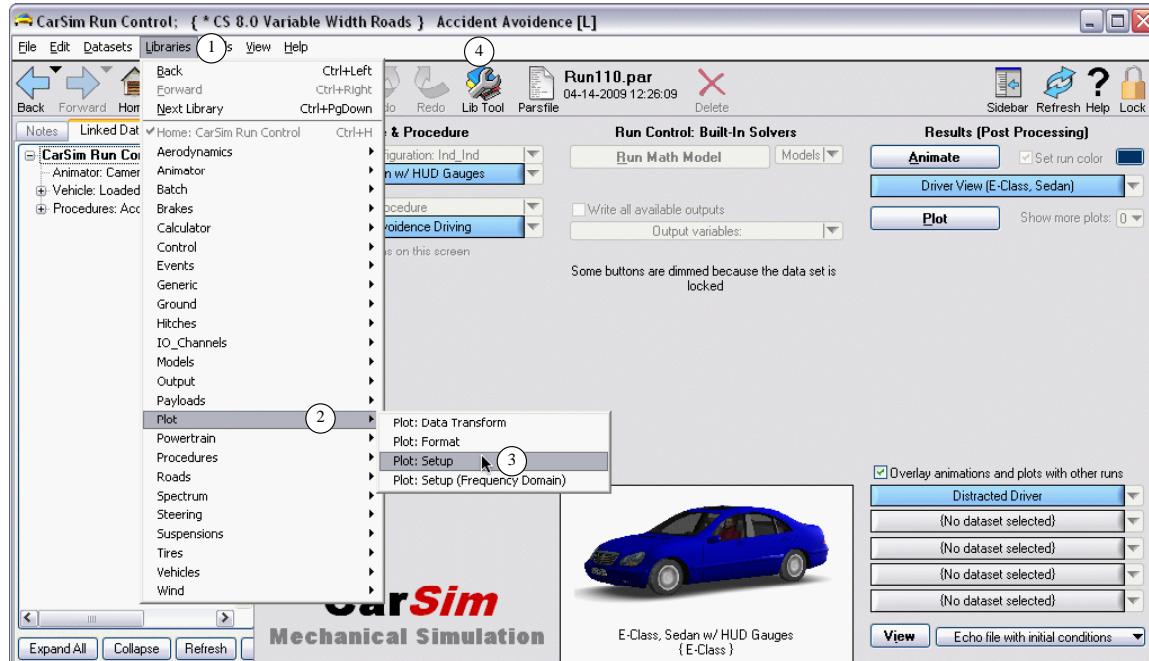
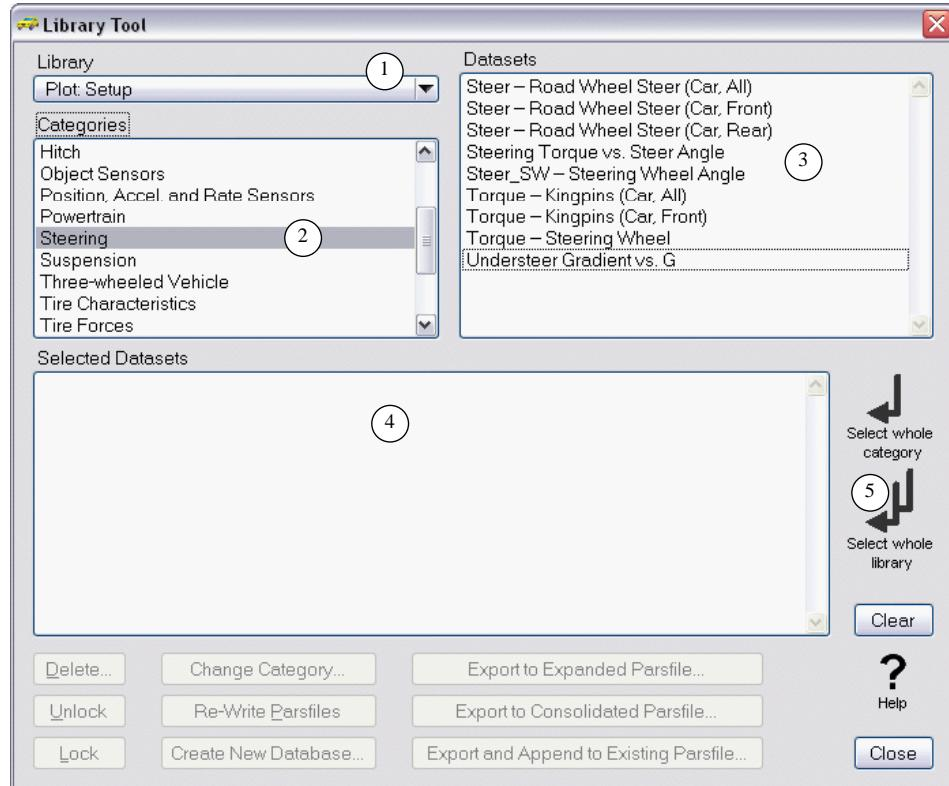

Figure 70. Use the **Libraries** menu to navigate to a different library screen.
Figure 71. The **Library Tool** window: before any datasets are selected.
5. Select the **Libraries** menu ① (Figure 70) to display all of the CarSim library screens. Go down to the submenu **Plot** ② and choose the library **Plot: Setup** ③. This will take you to the **Plot: Setup** screen that you used in the previous section to define a new plot.
6. Click the **Lib Tool** button ④ (Figure 70) or select the **Tools** menu item **Library Tool**. Either action will bring up the **Library Tool** window (Figure 71).